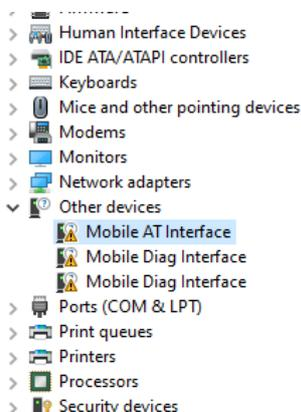

Figure 6: Module devices recognized by the operating system
3. Use a USB cable to connect the PC and the Type-C interface on the TE board. Then, several SimTech module devices should appear under “Other devices” in Device Manager, as shown in Figure 6.